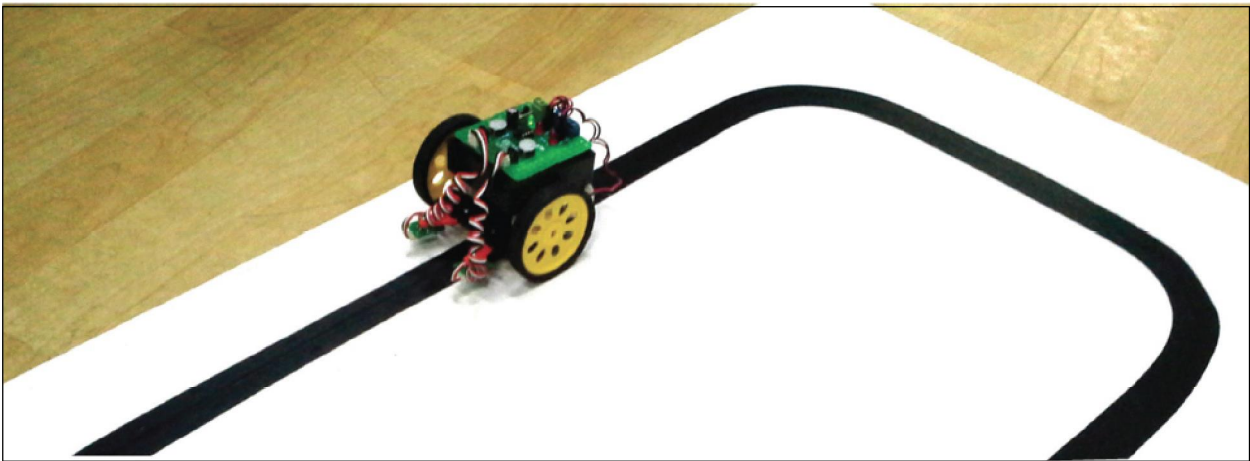

Figure 6 : iBEAM robot is moving along the black line
(1) Place the iBEAM robot on the white floor. Lift the robot 3 cm. above the floor. Adjust the Sensitivity Knob until all motor stop.
(2) Place the iBEAM robot over the black line. iBEAM robot will move along the black line following the figure 6.